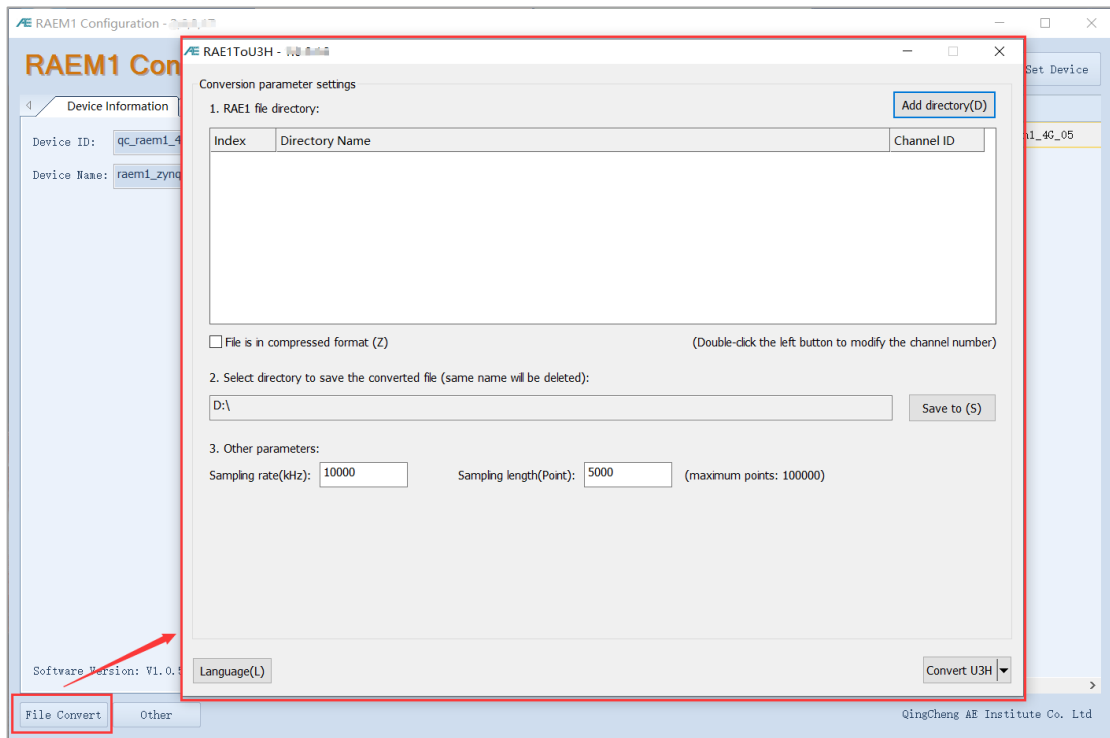

Fig. 9-1 Open “RAE1ToU3H”
2) Open "RAE1toU3H.exe". It can also be opened through RAEM1 Configuration software >> "File Convert" button at the bottom left corner. See Figure 9-1.